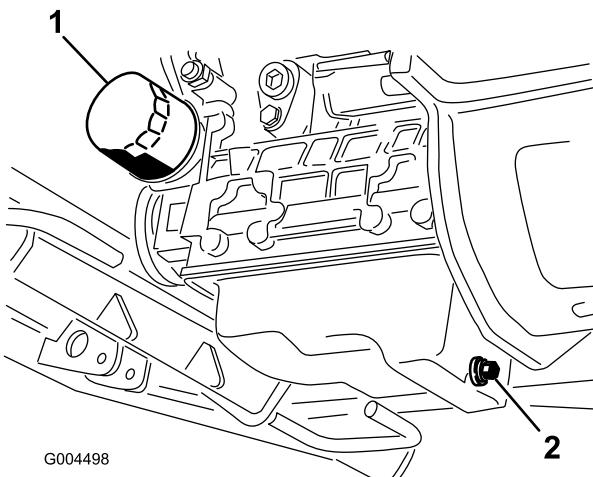

Figure 42
3. Set a drain pan under the oil pan and in line with the drain plug (Figure 42).
6. Remove and replace the oil filter (Figure 42).